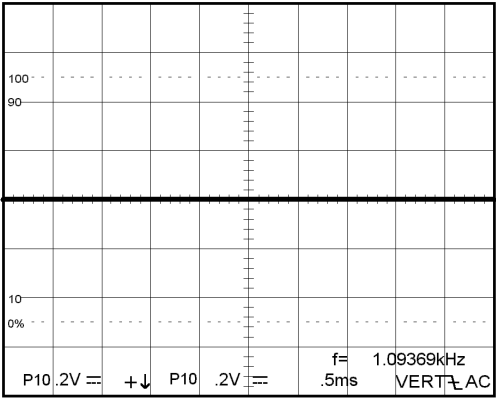

Figure 5-4 ADD mode
- 9) The figure 5-4 below shows a satisfactory display. The display will show a flat trace located on the centre graticule that confirms the correct operation of channel balance and ADD offset function.